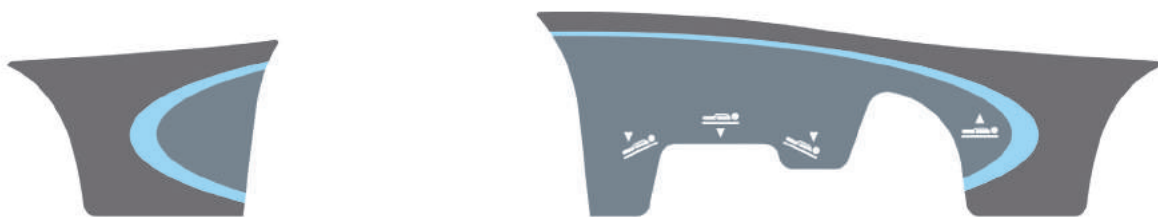

Figure 10: Side Base Control Label
For Trendelenburg positioning (head down) (see Figure 10 on page 26):
For reverse Trendelenburg positioning (foot down) (see Figure 10 on page 26):
- Depress pedal (B) at the foot end of the unit or
- Depress the side of pedal (C), located on the patient left or patient right side, closest to the foot end of the unit.
To lower the stretcher from reverse Trendelenburg position, depress pedal (A) once to raise the foot end of the stretcher, and then depress pedal (C) or (D) (see Figure 10 on page 26).